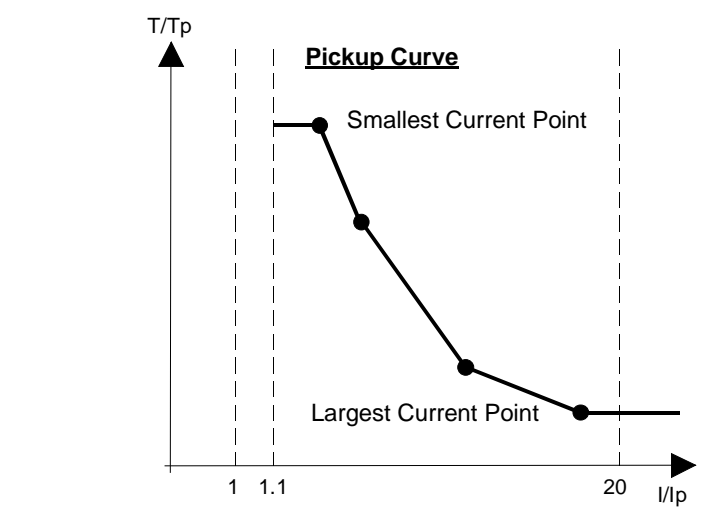

Figure 6-40 Use of a User Defined Curve
- Current flows less than the smallest current value entered will not lead to an extension of the tripping time. The pickup curve (see Figure 6-40) continues, from the smallest current point parallel to the current axis.
- Current flows greater than the highest current value entered will not lead to an abbreviation of the tripping time. The pickup curve (see Figure 6-40) continues, from the largest current point parallel to the current axis.